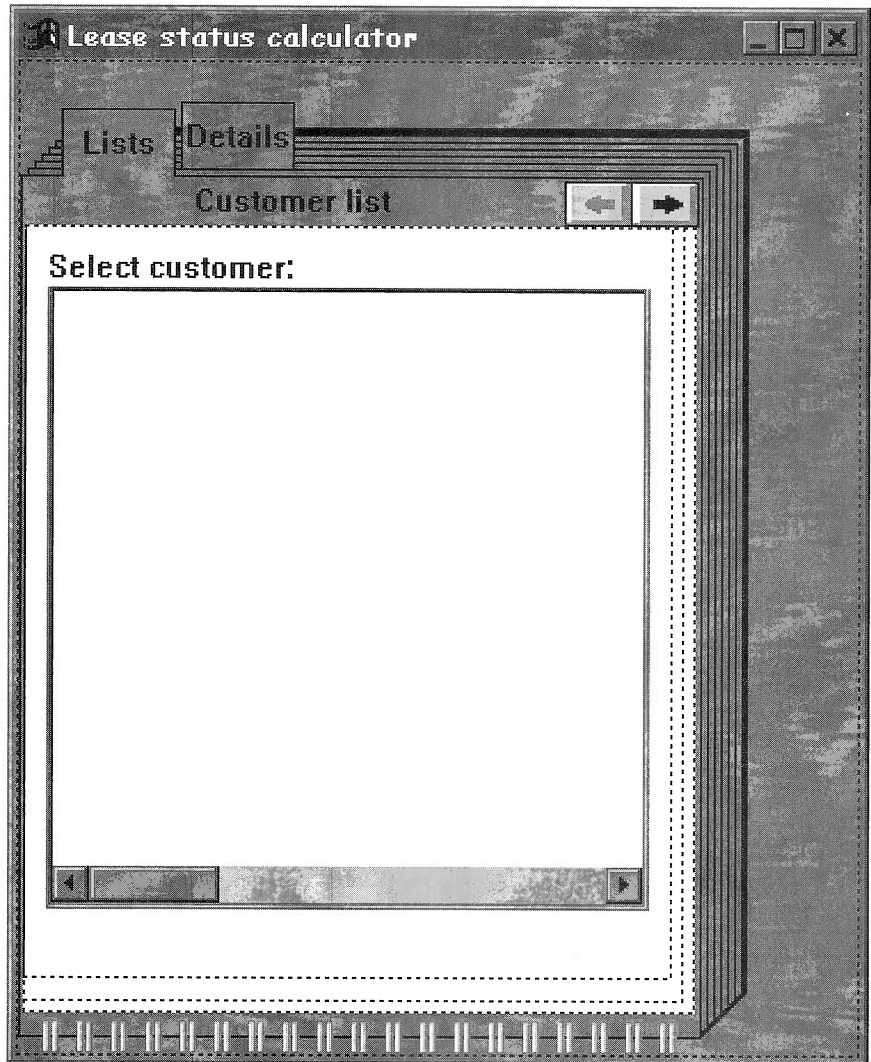

Figure 177: First page of the notebook
- ☐ Size the **CustomerListCanvas** so that it fills most of the area on the viewport. Leave a few pixels of the viewport visible so it can be selected if needed. The notebook should look like Figure 177.